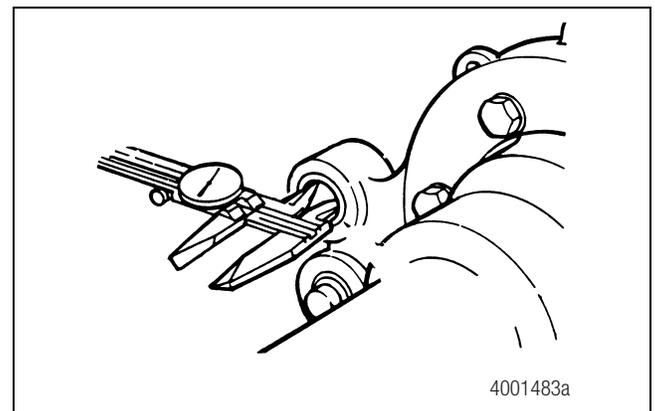

Figure 4.7
1. Check the inside diameter of the anchor pin bushings. Figure 4.7. The inside diameter of the bushing must not exceed 1.259-inches (31.98 mm). Replace worn bushings.